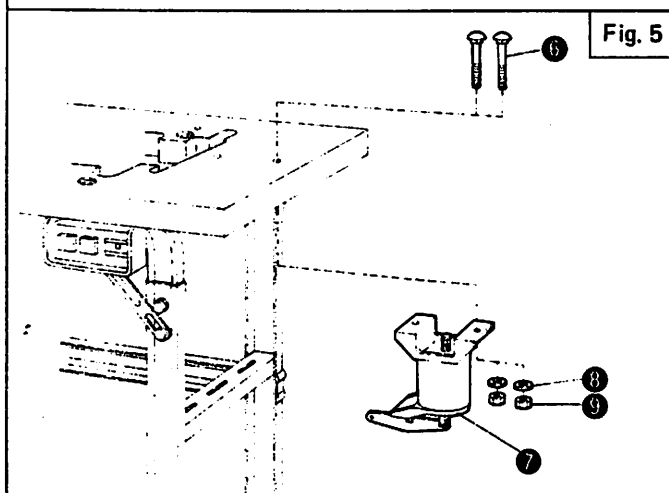

Fig. 5
SOLENOID OPERATED FOOT LIFTER (Figs. 5,6)
Refer to Figs. 5, and 6, and install parts ⑥ to ⑨, and ⑩ to ⑬ in sequence.
- Loosen Nut ⑬ and adjust the stroke S.